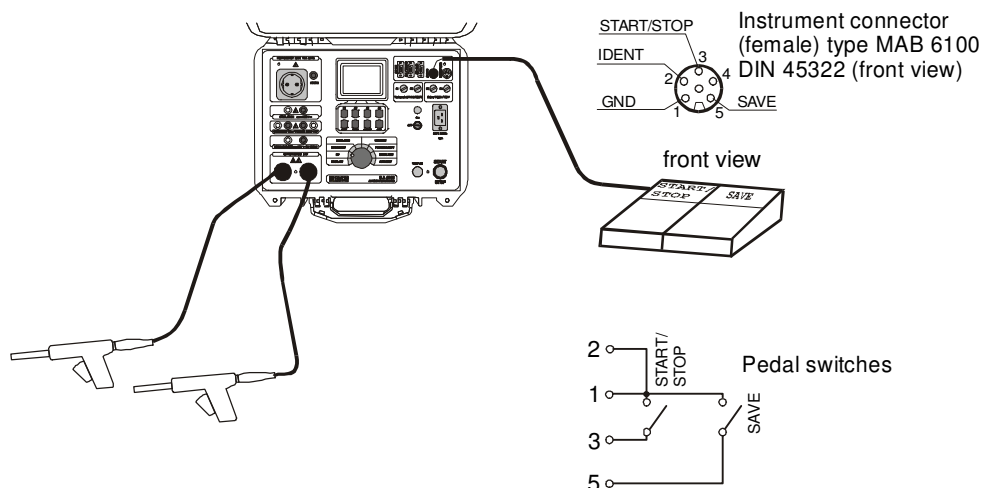

Fig. 56. Connection of remote control pedal to APPLIANCE MULTITESTER
- STEP 1.** Connect REMOTE CONTROL pedal to the instrument as it is shown in fig.56 and carry out the measurement by pressing START/STOP pedal.